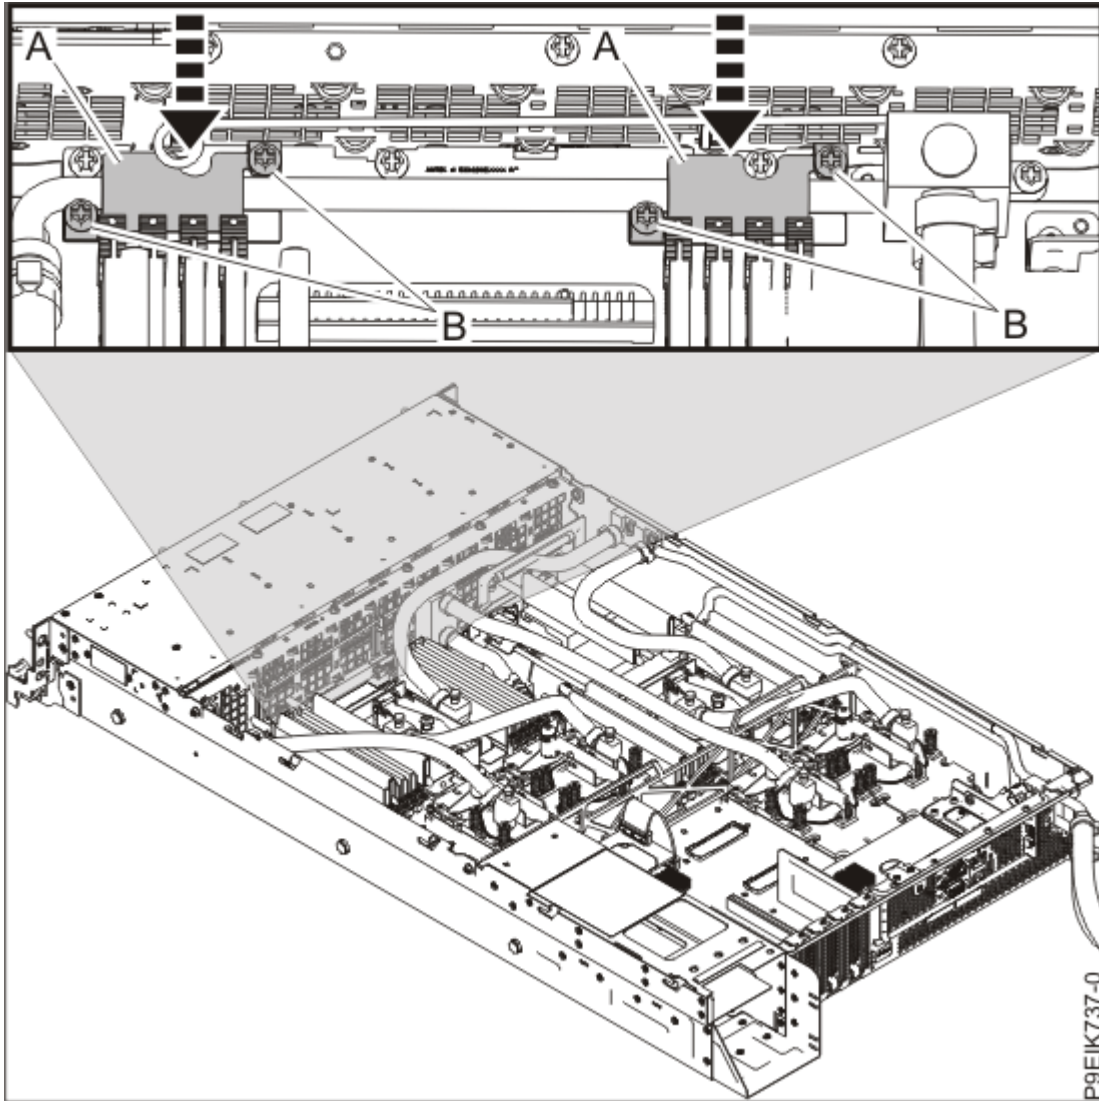

Figure 57. Replacing the front pipe holders
10. Replace the two pipe holders **(A)** near the front of the system as shown in Figure 57 on page 59. Place the pipes in the supports on the system backplane, place the holders over the supports and the pipes, align the screw threads at **(B)**, and tighten the four screws.